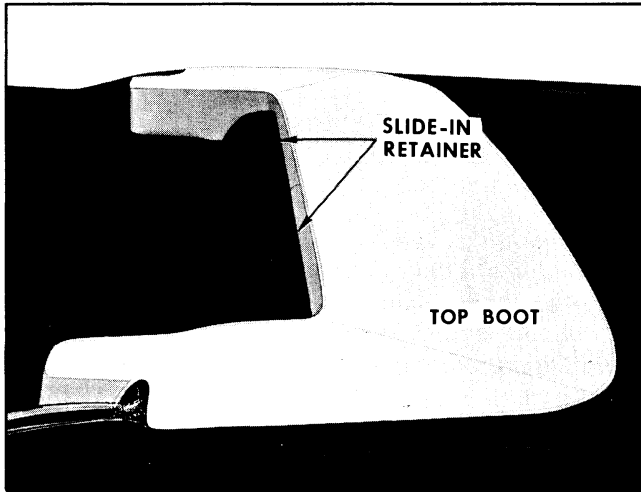

Fig. 22-1 Top Boot
The top boot is attached to the body with concealed "floating-type" snap fasteners along the side and rear edges and a "slide-in" retainer along the front edge as indicated in Fig. 22-1. When the folding top is raised, either of the following two methods may be used for storing the boot.
3. Engage remaining boot fasteners to studs on molding and rear quarter trim (Fig. 22-1).